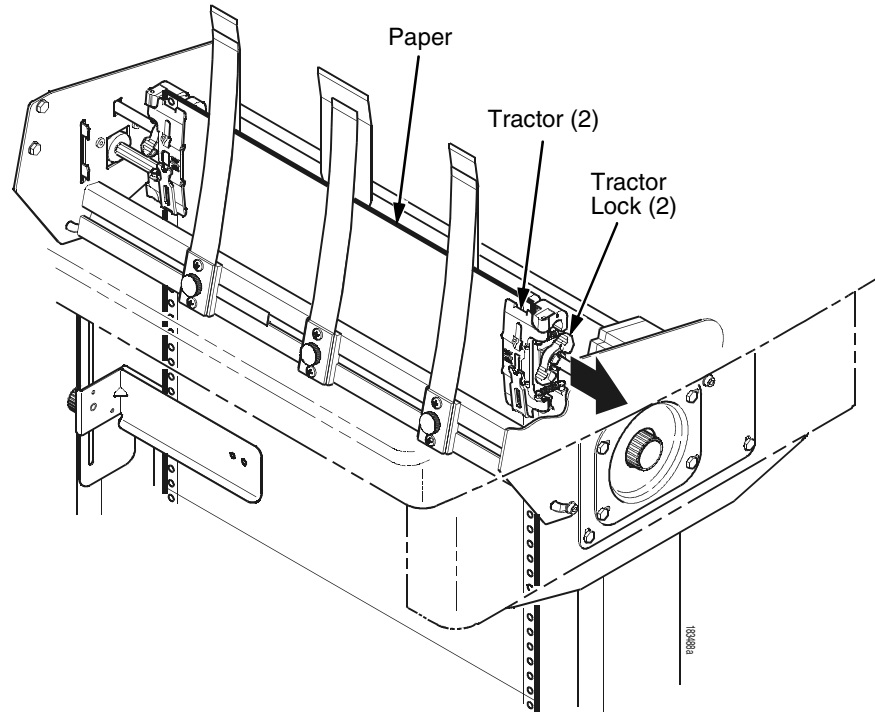

Figure 32. Adjusting the Horizontal Paper Tension
5. Adjust the paper web tightness by sliding the right tractor to remove slack or to adjust for various paper widths. (See Figure 32.)